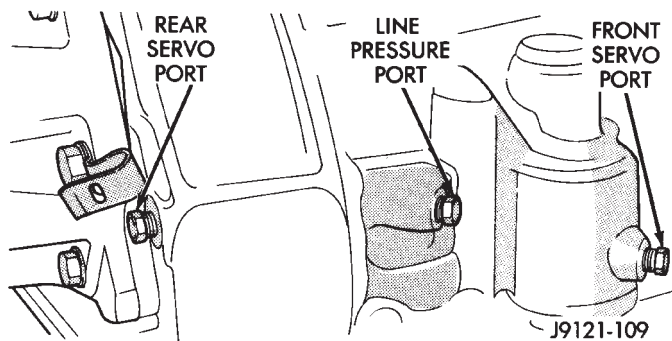

Fig. 4 Front Servo And Line Pressure Test Ports
Line pressure is checked at the accumulator port on the right side of the case (Fig. 4). The front servo release pressure port is at the right side of the case just behind the filler tube opening (Fig. 4).
(1) Connect test gauge to line pressure port (Fig. 4).
(2) Start and run engine at 1000 rpm.
(3) Move valve body selector lever one detent rearward from full forward position. This is 2 range.
(4) Move transmission throttle lever from full forward to full rearward position and read pressure at both gauges.
(5) Line pressure should be 54-60 psi (372-414 kPa) with throttle lever forward and gradually increase to 90-96 psi (620-662 kPa) as lever is moved rearward.
(1) Connect one test gauge to line pressure port and other gauge to front servo pressure port (Fig. 4). Either gauge can be used at either port.
(2) Start and run engine at 1600 rpm.
(3) Move selector lever two detents rearward from full forward position. This is D range.
(4) Read pressures on both gauges as transmission throttle lever is moved from full forward to full rearward position.
(5) Line pressure should be 54-60 psi (372-414 kPa) with throttle lever forward and gradually increase as lever is moved rearward.
(6) Front servo is pressurized only in D range and should be same as line pressure within 3 psi (21 kPa), up to downshift point.